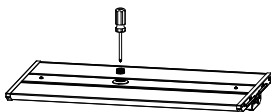

Figure 15
Step1. Use a screwdriver to remove the 1/2 plug from the sensor (Figure 15)